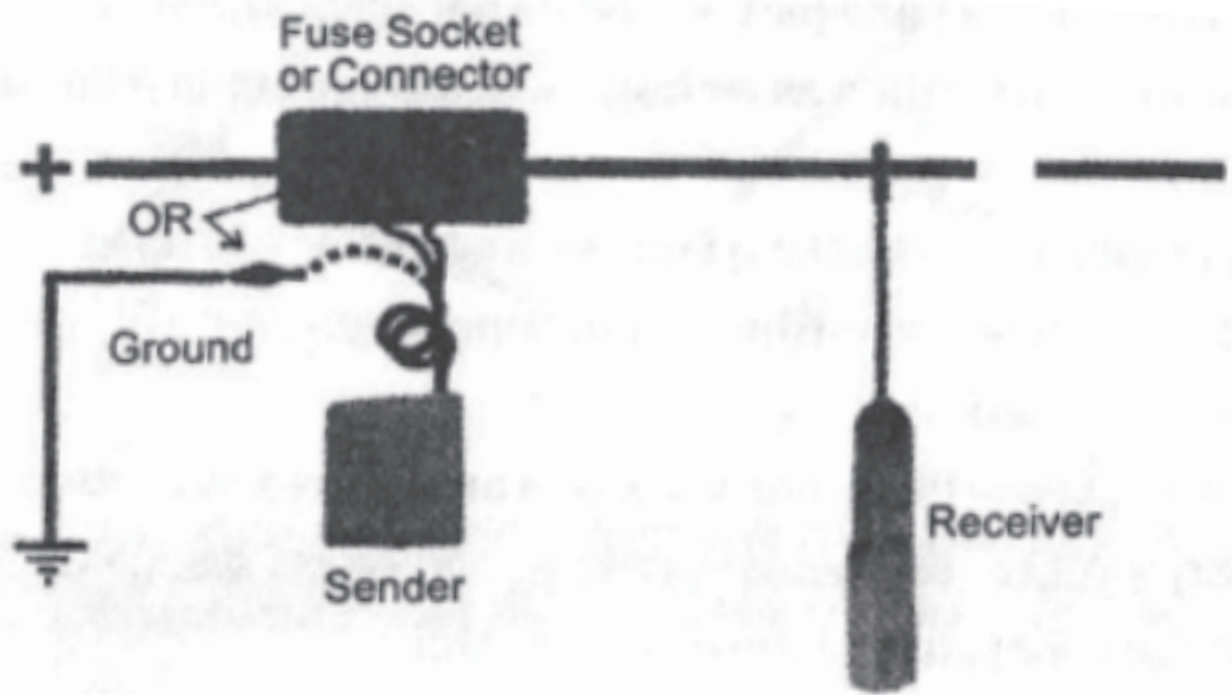

Figure 3
6. Continue this procedure while the audio signal indicates the integrity of the circuit, If audio signal stops, it indicates that the probe has passed beyond the open, break or bad connection in the circuit. See Figure 3.